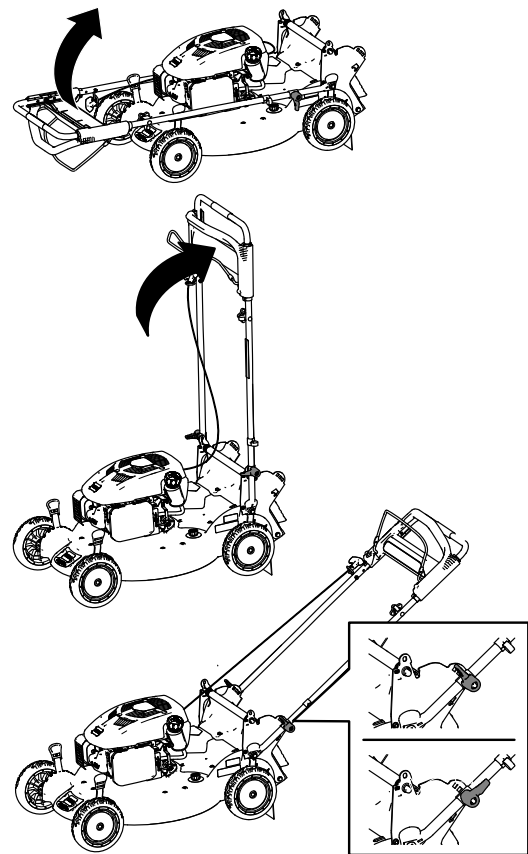

Figure 5
3. Rotate the handle rearward (Figure 5).